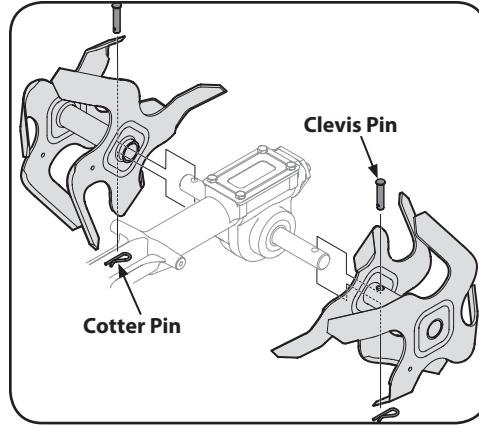

Figure 5-8
3. To remove a tine assembly, simply remove the cotter pin securing the clevis pin as seen in Figure 5-8. Remove the clevis pin and slide the assembly to the outside of the unit and off of the tine shaft.